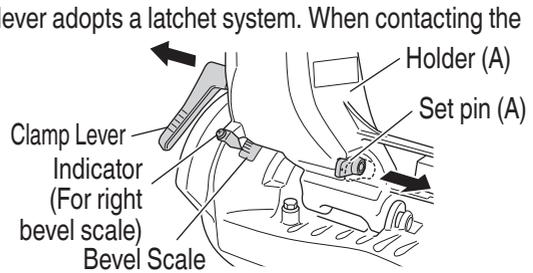

Fig. 24
### 13. Bevel cutting procedures (Fig. 24)
- (1) Loosen the clamp lever and bevel the saw blade to the left or to the right. When tilting the motor head to the right pull the set pin (A) towards the rear. The clamp lever adopts a latching system. When contacting the work bench and the main body, pull the clamp lever in the direction of the arrow mark as illustrated in Fig. 24, and change the direction of the clamp lever.
- (2) Adjust the bevel angle to the desired setting while watching the bevel angle scale and indicator, then secure the clamp lever.